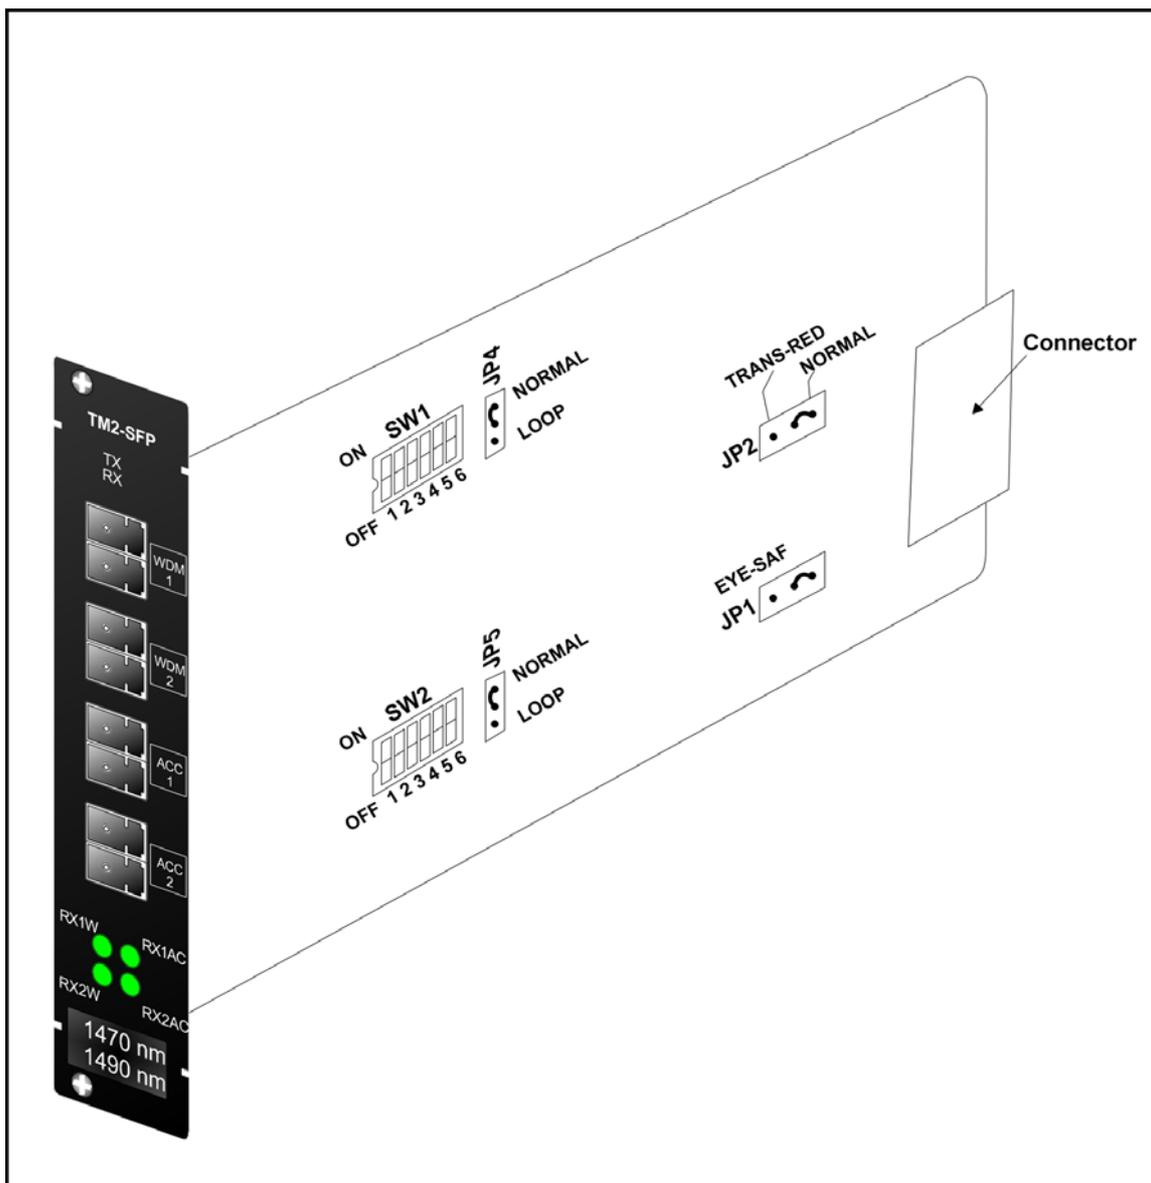

Figure 37: DIP Switch Location on TM2-SFP Transponder Module
1. With the aid of *Figure 37*, locate Jumper **JP1** on the TM2-SFP Transponder module and position it using *Table 10*.
- With the aid of *Figure 37*, locate Jumper **JP2** and position it using *Table 11*.
- With the aid of *Figure 37*, locate Jumpers **JP4** and **JP5** and position them using *Table 12*.
- With the aid of *Figure 37*, locate DIP switches **SW1** and **SW2** on the TM2-SFP Transponder module.